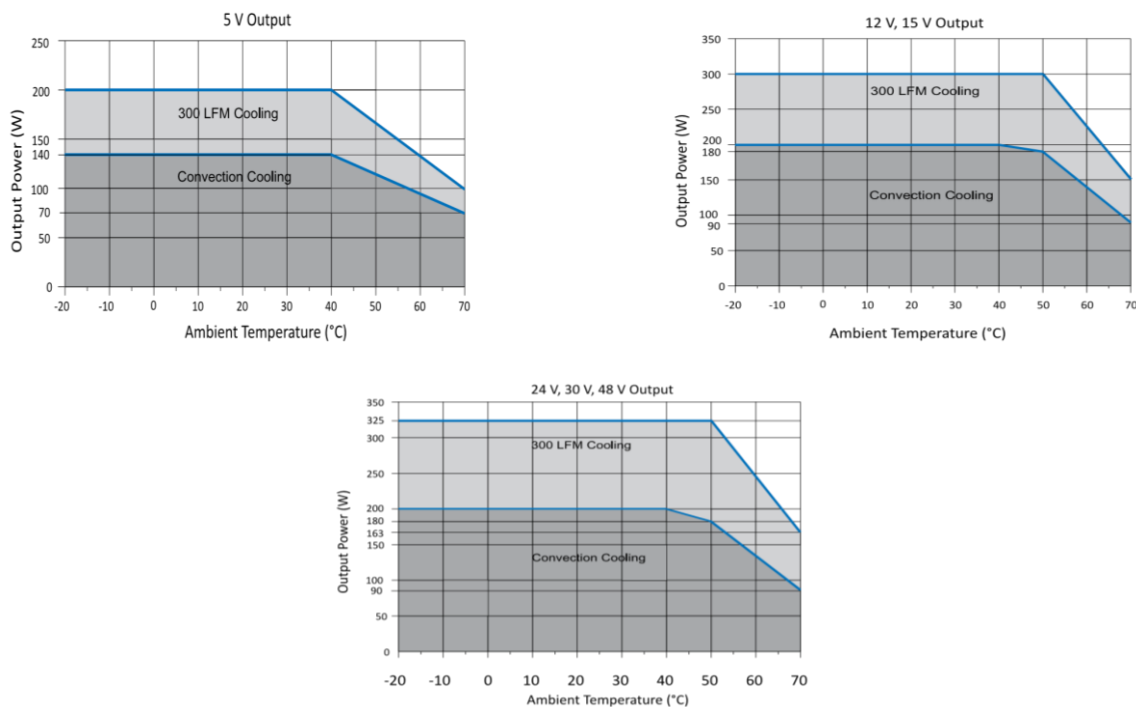

Figure 1. Output Power Vs. Temperature Derating Curves
* Refer de-rating curves (Fig. 1) to determine output power over the entire operating temperature range